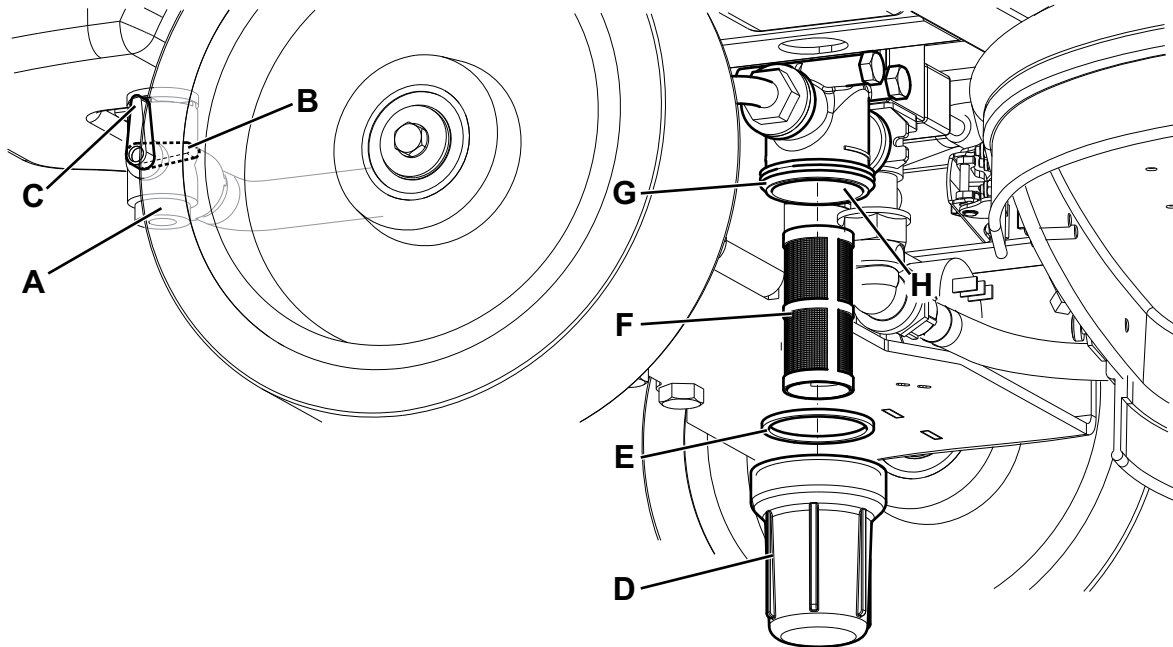

Figure 9
2. Turn the ignition key (58) to "0".
3. Close the solution tap (A, Fig. 9) under the machine, behind the right rear wheel. The tap (A) is closed when it is in the position (B) and it is open when it is in the position (C).
4. Remove the transparent cup (D), recover the gasket (E), then remove the filter strainer (F) under the machine, in front of the right rear wheel. Clean them with water and install them on the support (G).